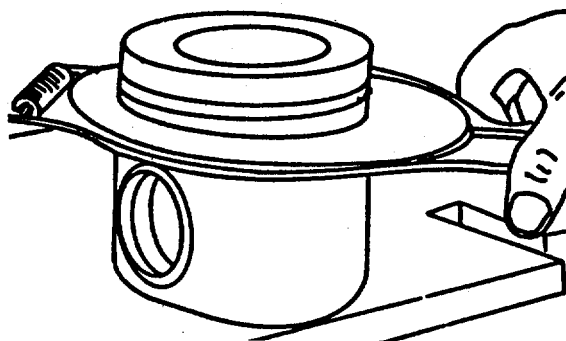

FIGURE 4-52. Installing Intermediate Ring.
- (3) Install the intermediate ring as shown in FIGURE 4-52.